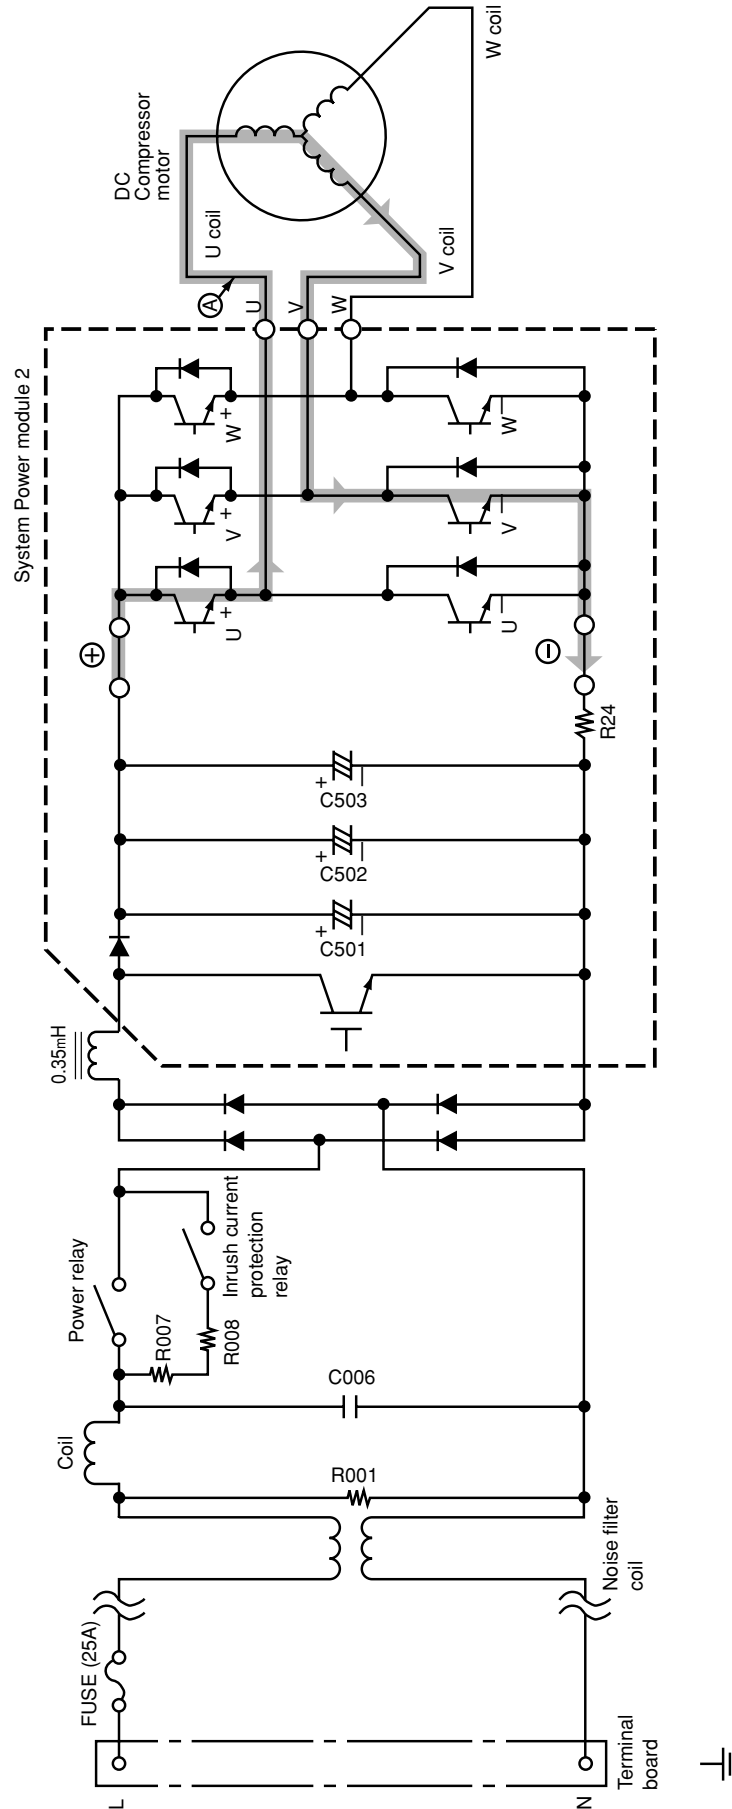
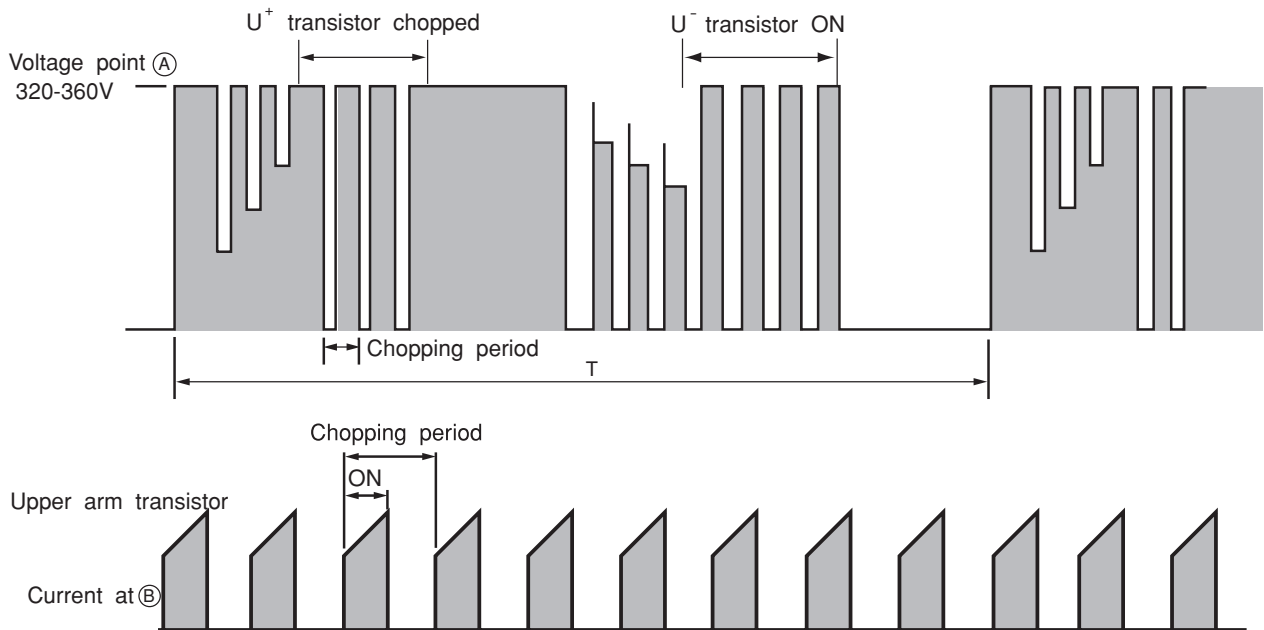

Fig. 3-1 Power module circuit (U⁺ is ON, V⁻ is ON)
Fig. 3-3 Voltage waveform at each point
- Fig. 3-1 shows the system power module and its peripheral circuit. (Current ACT module and power module are combined into one unit.) The three transistors on the positive ⊕ side are called the upper arm, and the three transistors on the negative ⊖ side, the lower arm.
- Fig. 3-3 shows voltage / current waveform at each point shown in Figs. 3-1 and 3-4. First half of upper arm is chopper, second half is ON, and first half of lower arm is chopper, second half is ON.
- When power is supplied U⁺ → U⁻, because of that U⁺ is chopped, current flows as shown below; ②
- (1) When U⁺ transistor is ON: U⁺ transistor → U coil → V coil → V⁻ transistor → DC current detection resistor → Point ② (Fig. 3-1)
- Since current flows at point B only when U⁺ transistor and V⁻ transistor is ON, the current waveform at point B becomes intermittent waveform as shown in Fig. 3-3. Since current at point B is approximately proportional to the input current of the air conditioner, input current is controlled by using DC current (Id) detection resistor.